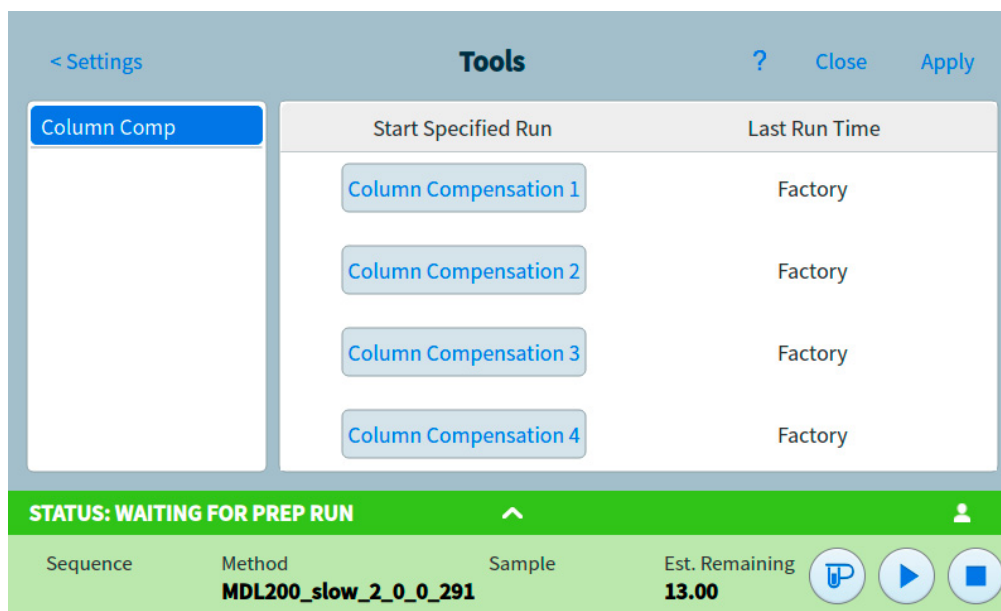

Figure 49. Tools page
The Tools page allows you to perform column compensation runs for the installed columns on the GC. See **Figure 49**.
- 1 With the Tools page displayed, as shown in Figure 49, select the desired **Column Compensation** in the **Start Specified Run** column. The GC performs the column compensation run. No injection occurs as a part of this run.